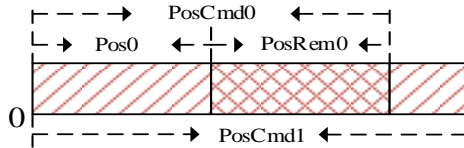

Figure 12.15 Absolute position command operation
③ The absolute position command takes the position relative to the absolute zero point (set by Pn296 and Pn297) as the reference point. As shown in Figure 12.15, the first position command is set to PosCmd0, and after running the pulse of Pos0, the second absolute position command PosCmd1 is inserted, so that the total number of pulses run by the second position command, is PosCmd1-Pos0, and the final running position is PosCmd1.